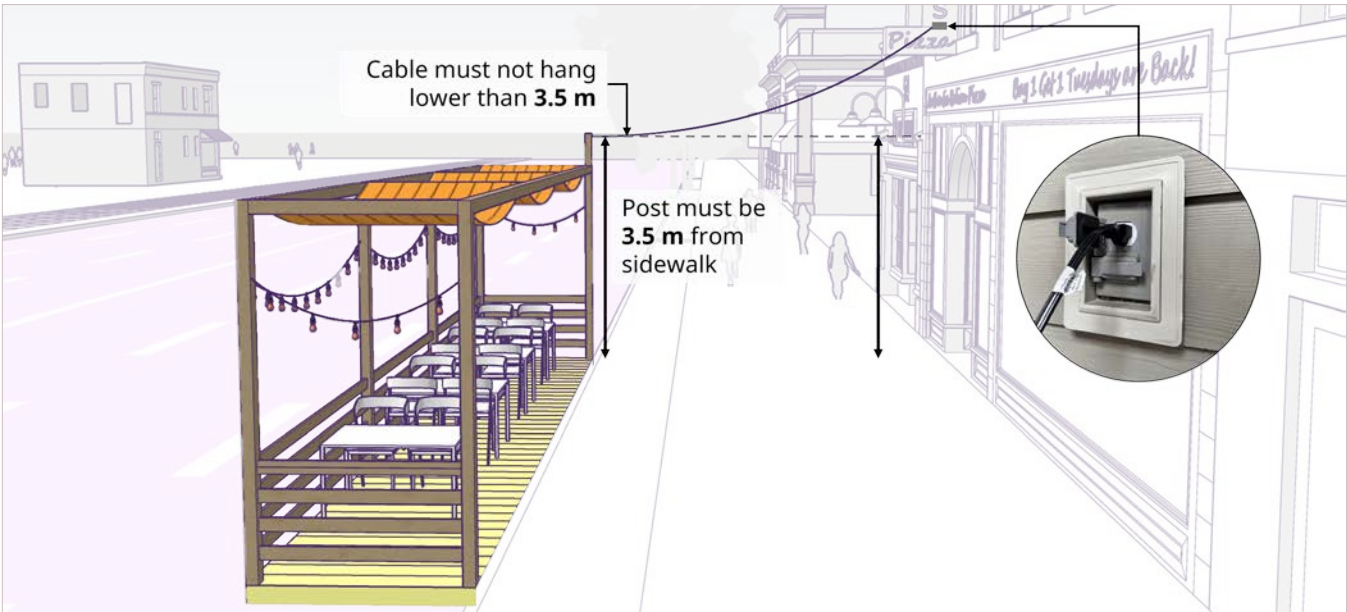

Figure 34: Electrical connections to a patio
- b. Electricity must be supplied from the building to the curbside patio through an overhead electrical cable that crosses over the sidewalk at a minimum height of **3.5 m** (see Figure 34).
- One of the posts of the curbside patio may be up to **3.5 m** in height to support this overhead cable (see Figure 34).
- c. The electrical cable cannot be hardwired into the wire system of the building and must be easily detachable at the building connection from an outlet (see Figure 34).